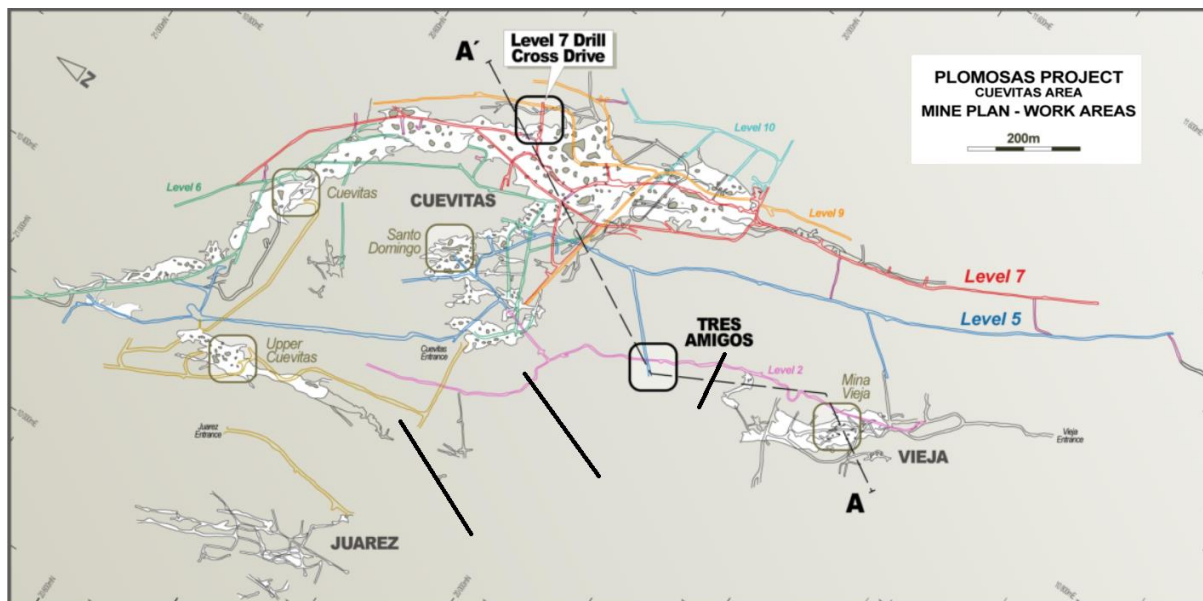

Figure 5: Approximate positions of proposed drill traverses to test for extensions to the Tres Amigos mineralisation
Further work is planned for Tres Amigos and permits for new drill pads have been submitted for planned drill sites. Drilling will concentrate on the area between Tres Amigos and the Juarez mineralisation to the north west and utilise reverse circulation (RC) rigs. These planned holes will be located as shown in Figure 5 by the two lines of drilling across the trend of mineralisation between the Tres Amigos and Juarez mining areas.